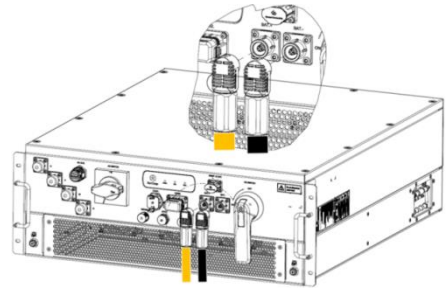

Figure 6-14 Schematic diagram of BAT+ and BAT-
Step 4: Use wire strippers to strip appropriate lengths of the BAT+ and BAT- cables. Insert them into the plug housing and sealing rubber sleeve separately. Use a hydraulic crimping tool to crimp them onto the plug terminals, and assemble the rubber sleeve and plug housing. Finally, insert the plugs into the corresponding sockets on the converter, as shown in Figure 6-14. The preparation steps for DC cables are the same as those for AC cables, as shown in pictures 6-7-1 to 6-7-6 in section 6.4.2